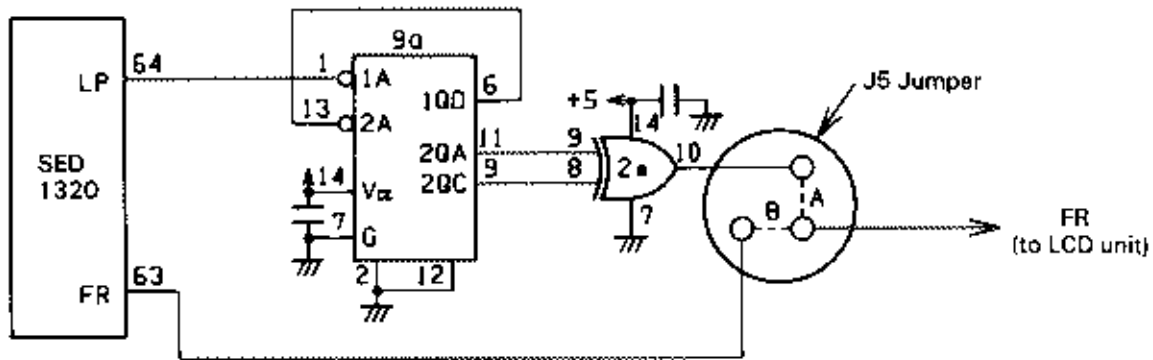
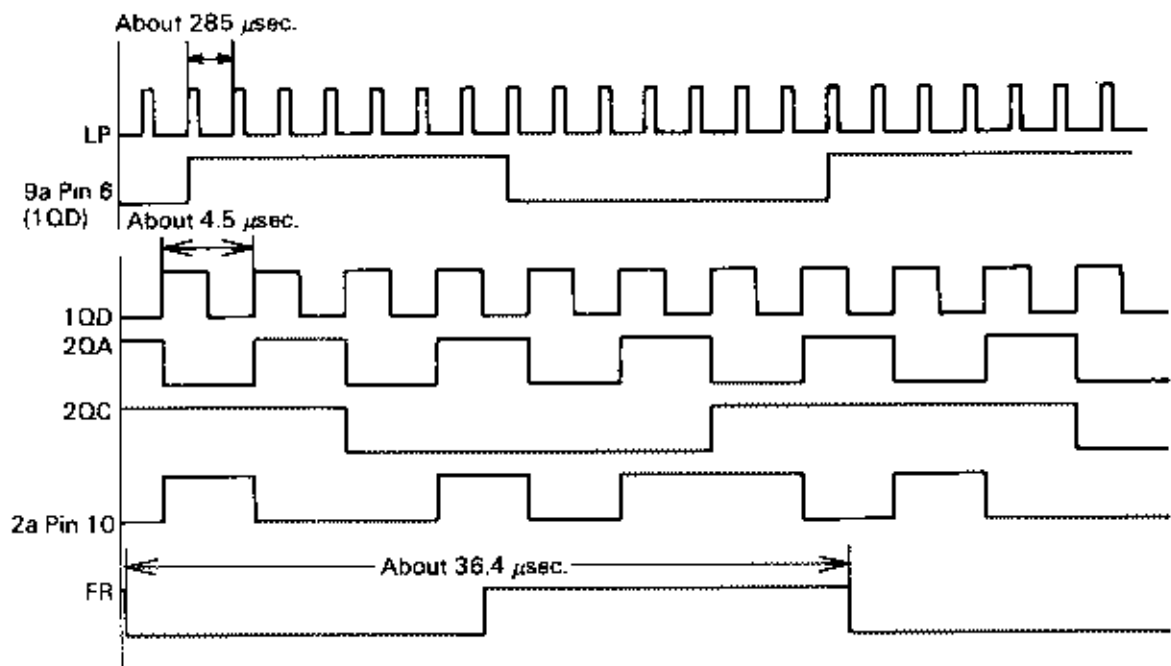

Fig. 2-84 FR Signal Generator Circuit
Fig. 2-85 Timing Relationship Among RF Signal Generator Circuit Signals
This jumper allows the user to select one of two frame (FR) frequencies. It switches the FR signal to change the panel display mode. Jumper terminal A (see Fig. 2-84) is wired when the computer is shipped. Fig. 2-84 shows the FR signal generator circuit which includes the jumper. Fig. 2-85 illustrates the timing relationships among various circuit signals.